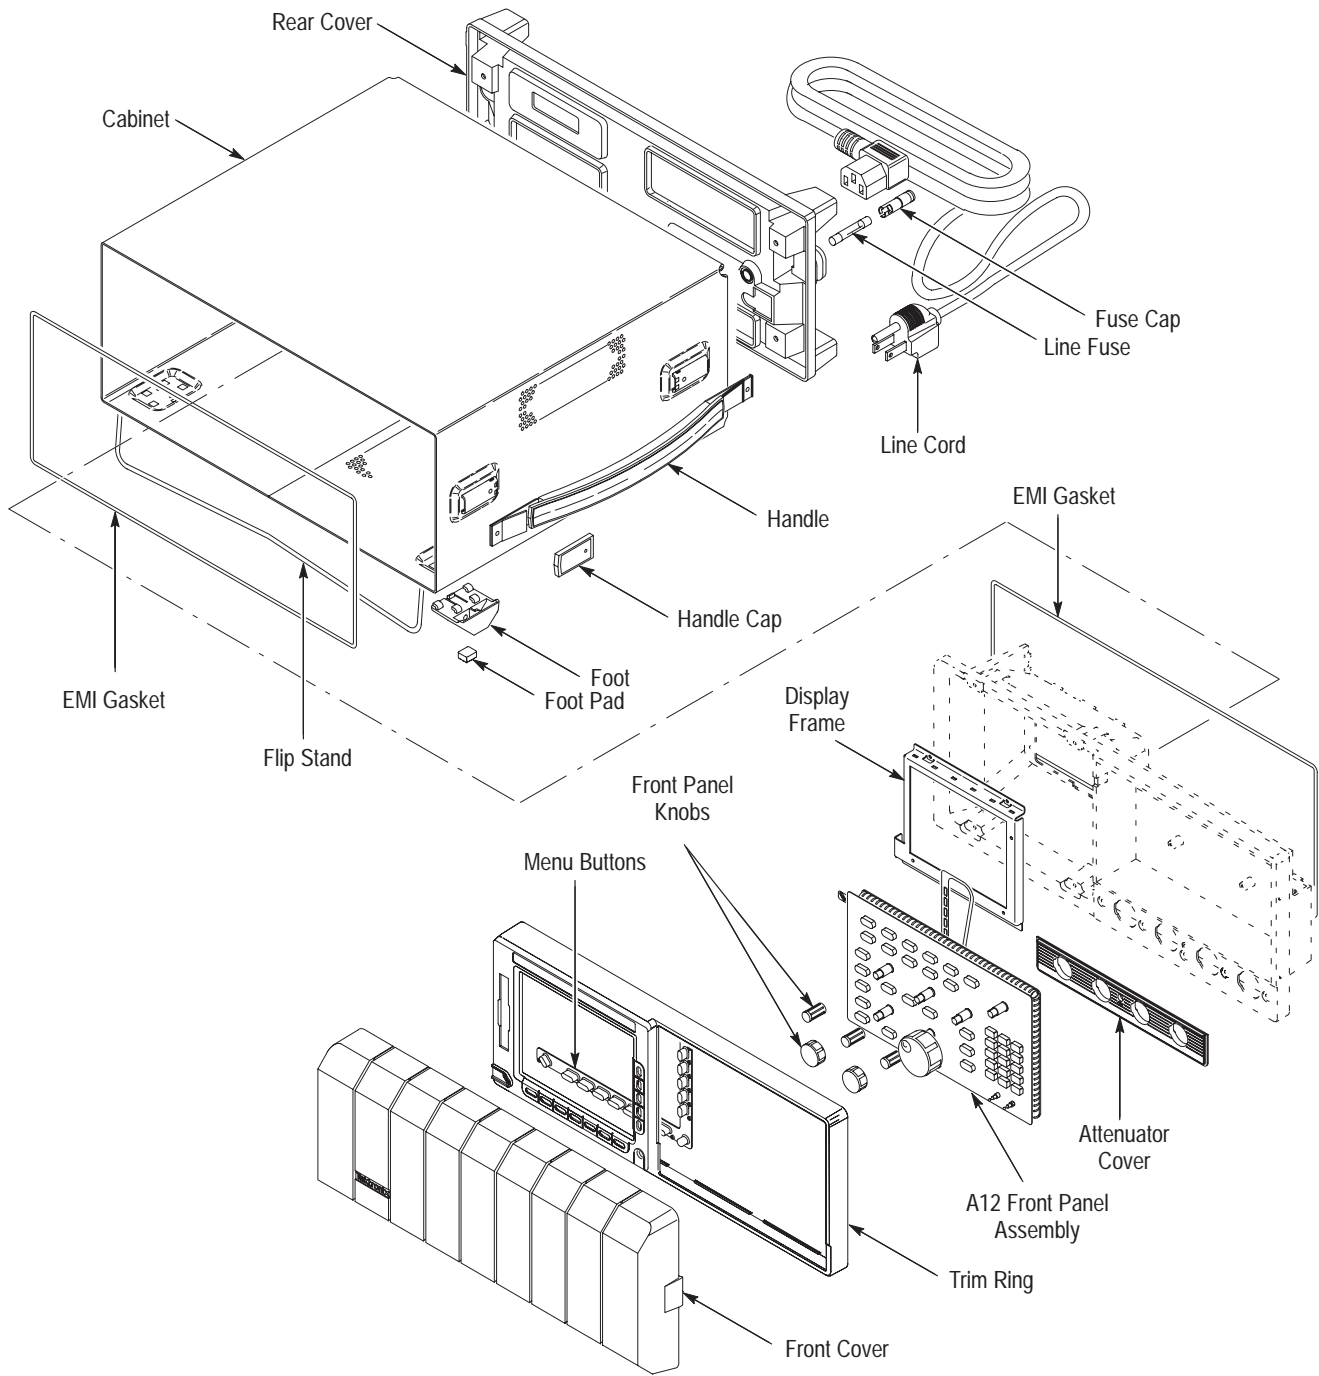

Figure 6-1: External modules
1. *Assemble equipment and locate modules to be removed:* Have a flat-bladed screwdriver (Item 5) handy. Locate the line fuse and line cord in the locator diagram *External modules*, Figure 6-1.
- c. Locate the rear cover and cabinet in the locator diagram *External modules*, Figure 6-1 on page 6-12.
- b. Locate the modules to be removed in the locator diagram *External modules*, Figure 6-1 on page 6-12.
1. *Assemble equipment and locate modules to be removed:* No tools are needed. Locate the modules to be removed in the locator diagram *External modules*, Figure 6-1 on page 6-12.